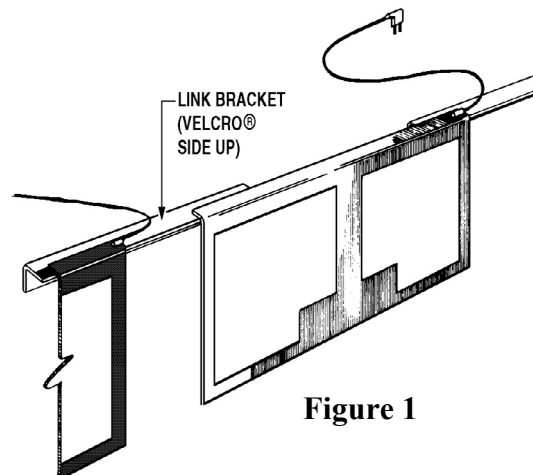

Figure 1
- 2) Beginning with the outside lane, lay a link bracket on the gutter, Velcro® side up, equidistant between lanes one and two (see Figure 1).